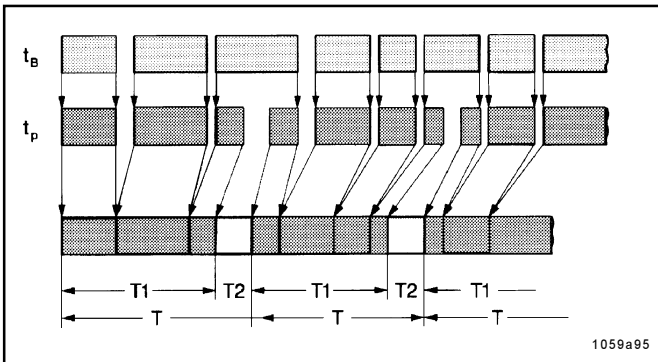

Fig. 18 - Time sequence diagram
- The printed circuit board automatically controls the sequence of the pause and operating times of the 233 centralized lubrication pump as a function of the vehicle or machine working hours t_B (fig. 18).
- A lubrication cycle consists of one pause time and one operating time. Once the pause time has elapsed, the operating time starts to run. This lubrication cycle is repeated permanently after the machine or vehicle has been put into operation (fig. 18).